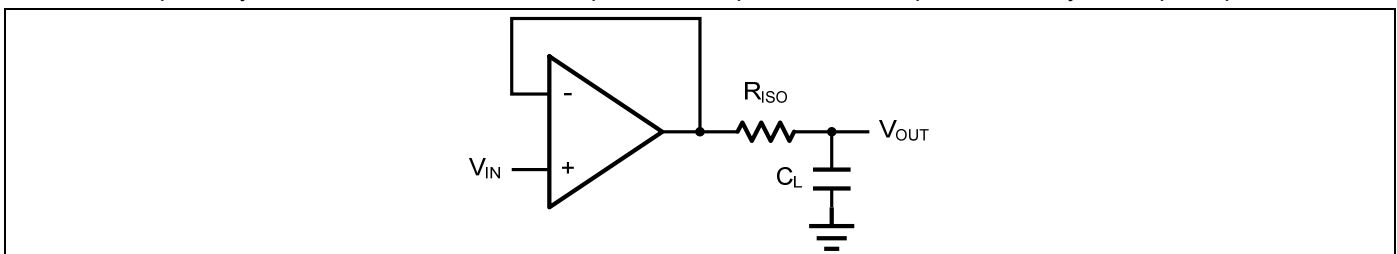
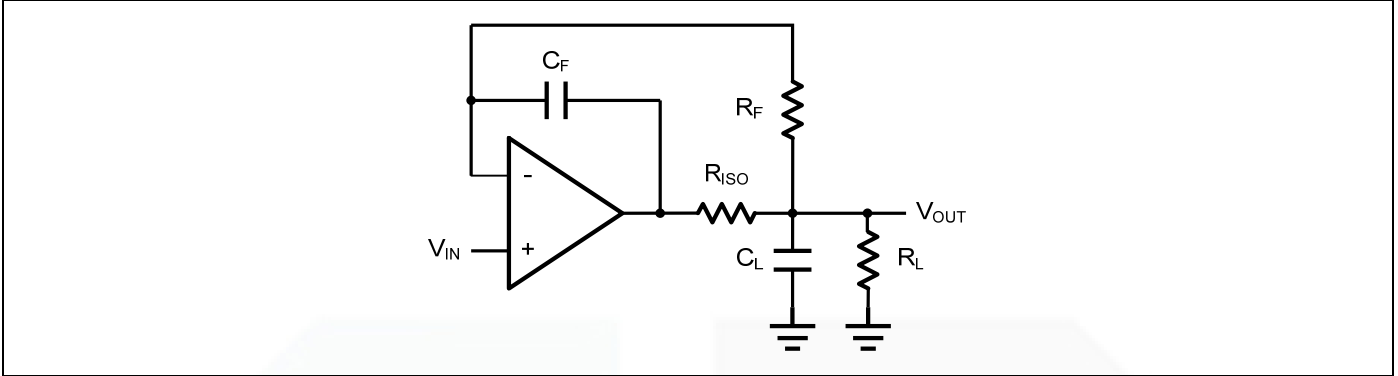

Figure 2. Indirectly Driving a Capacitive Load Using Isolation Resistor
Figure 3. Indirectly Driving a Capacitive Load with DC Accuracy
The GS853X family is optimized for bandwidth and speed, not for driving capacitive loads. Output capacitance will create a pole in the amplifier's feedback path, leading to excessive peaking and potential oscillation. If dealing with load capacitance is a requirement of the application, the two strategies to consider are (1) using a small resistor in series with the amplifier's output and the load capacitance and (2) reducing the bandwidth of the amplifier's feedback loop by increasing the overall noise gain. Figure 2. shows a unity gain follower using the series resistor strategy. The resistor isolates the output from the capacitance and, more importantly, creates a zero in the feedback path that compensates for the pole created by the output capacitance.
The circuit in Figure 3 is an improvement to the one in Figure 2. R_F provides the DC accuracy by feed-forward the V_{IN} to R_L . C_F